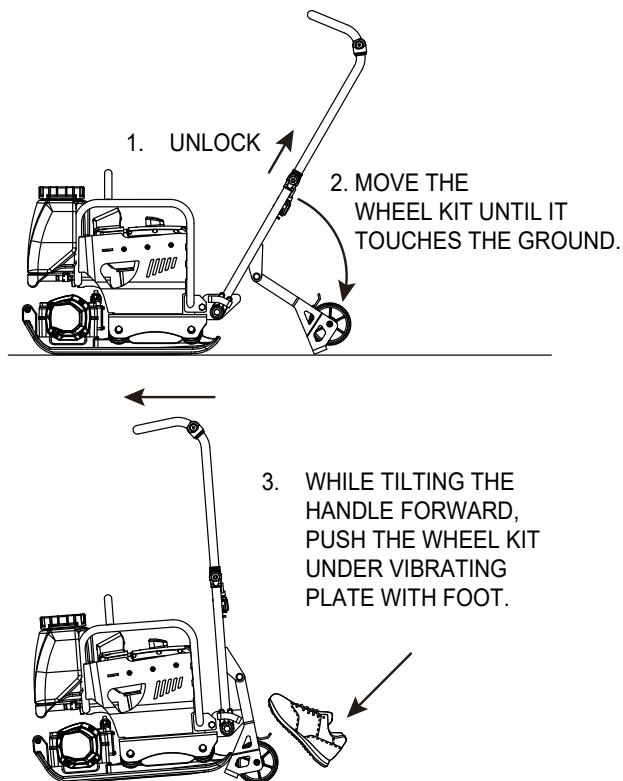

Figure 7. Wheel Kit Position
2. Check that the wheel kit moves from storage to operating position smoothly. See Figure 7.